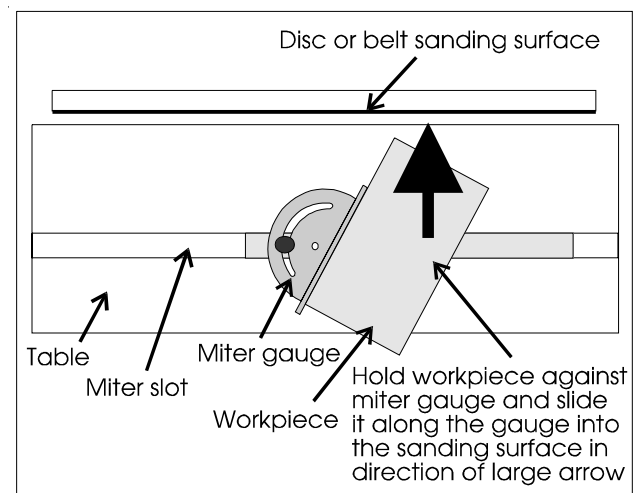

Figure 5: Use of the miter system
3. Place the workpiece against the miter reference surface and slide it along the reference surface and into the sanding disc or belt. The basic method is shown in Figure 5, below.